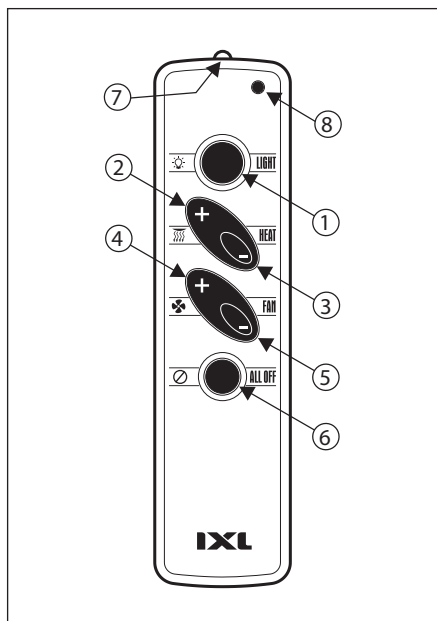

Fig. 5
All functions are controlled by the Smart Switch (Fig. 5), a battery powered wall mounted remote unit that sends an Infra red (IR) signal to a receiver mounted in the Tastic Neo fascia. Subsequent signals go to the Control Unit mounted on the top of the Tastic unit.